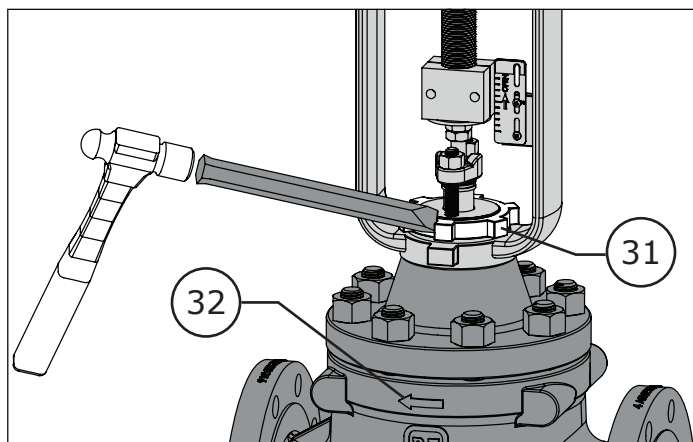

Figure 4 Yoke Nut being loosened with a Chisel
- 6 Use a blunted heavy chisel to loosen the yoke nut (Key 31). Unscrew the yoke nut and remove the actuator from the valve. If the actuator was energized during removal, de-energize the actuator (Refer to Figure 4).